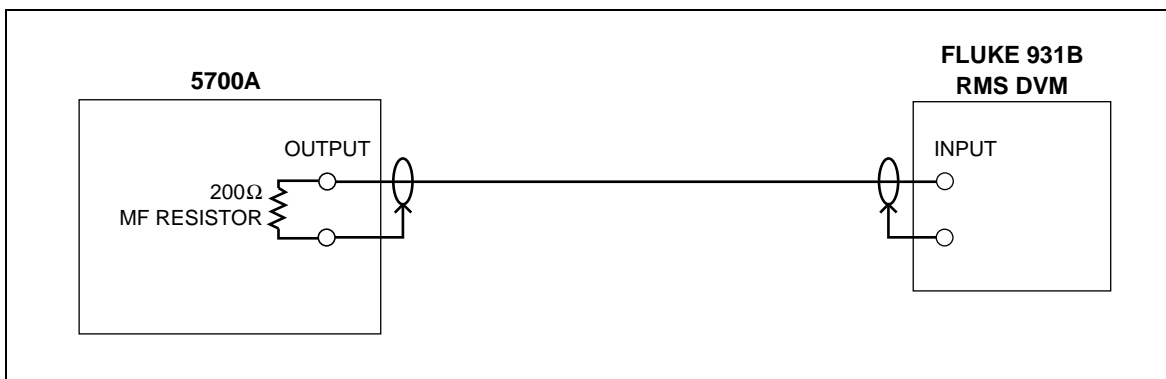

Figure 3A-22. 2 mA AC Current Setup
- Connect the equipment as shown in Figure 3A-22. Using the same 200 Ω resistor used in step 1.